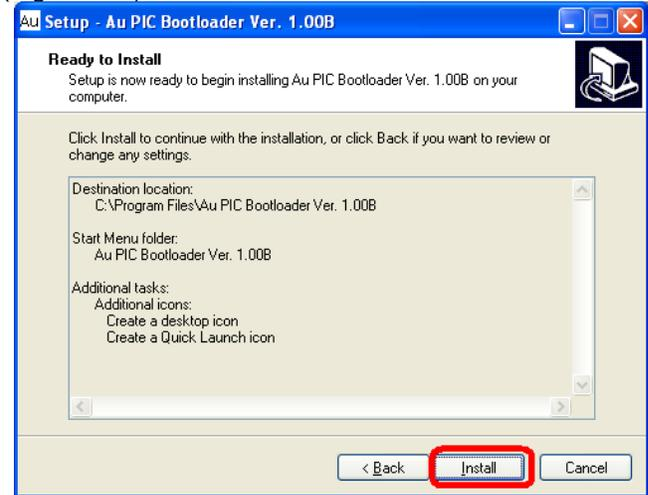

Figure B-7
- 7. "Ready to Install" window shows up. Click "Install" (Figure B-7).